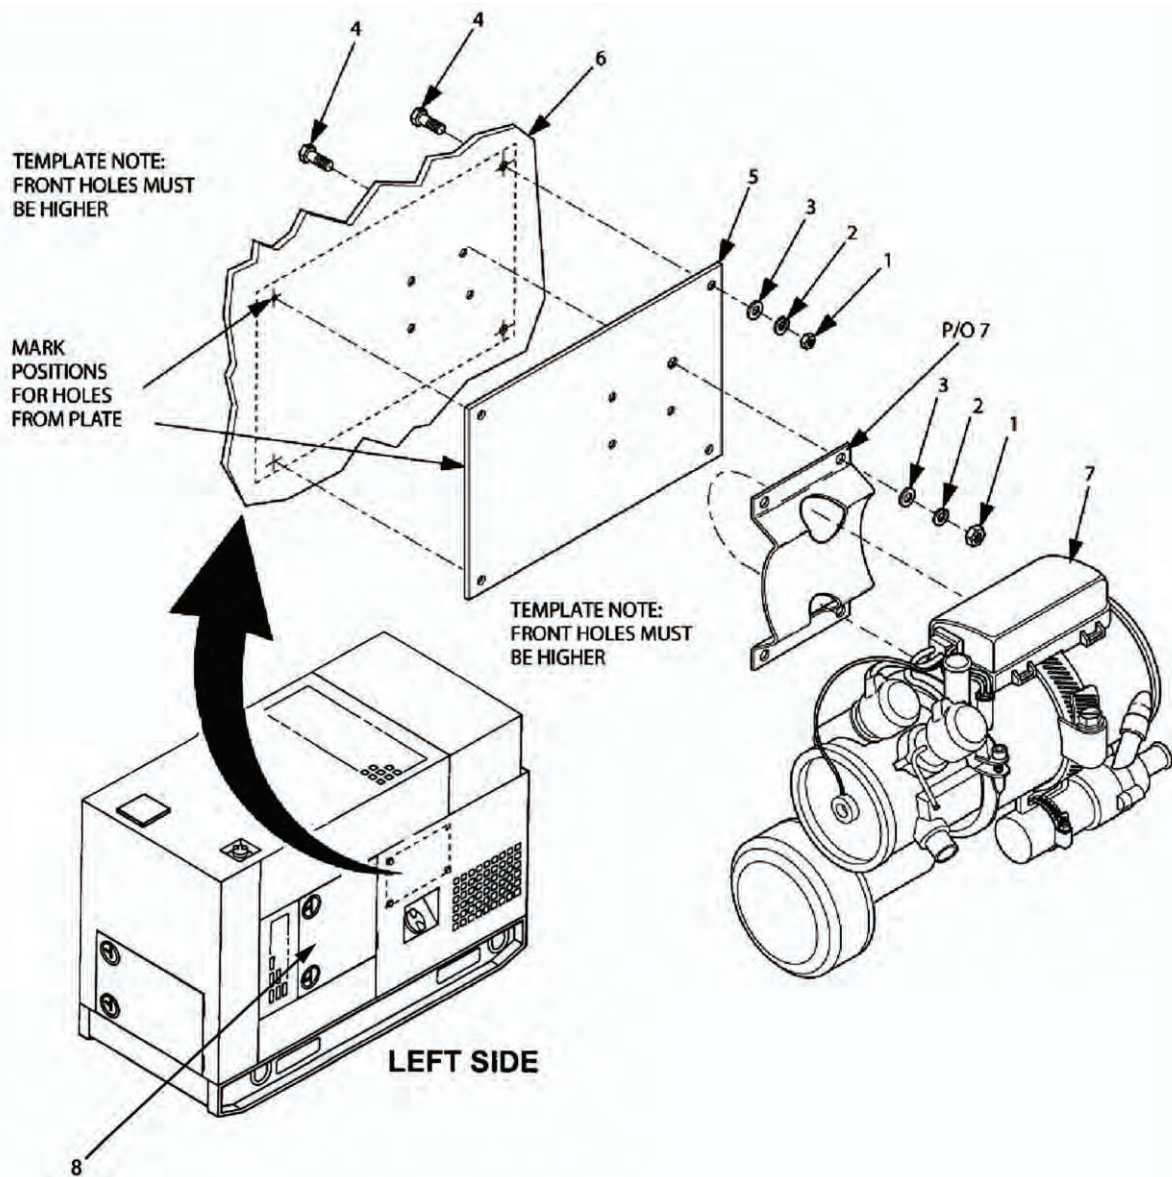

Figure 1. Heater Mounting.
2. Using the heater mounting plate (Figure 1, Item 5) as a template, drill holes from the outside on left side panel. Before drilling holes, open left side rear door and look inside generator set to verify proper positioning and clearance of mounting plate. To install the heater mounting plate, perform the following steps: using the plate as a template, place it 1.75" from the top left access door flange and 2.00" across from the door hinge flange to locate the edge of the plate.